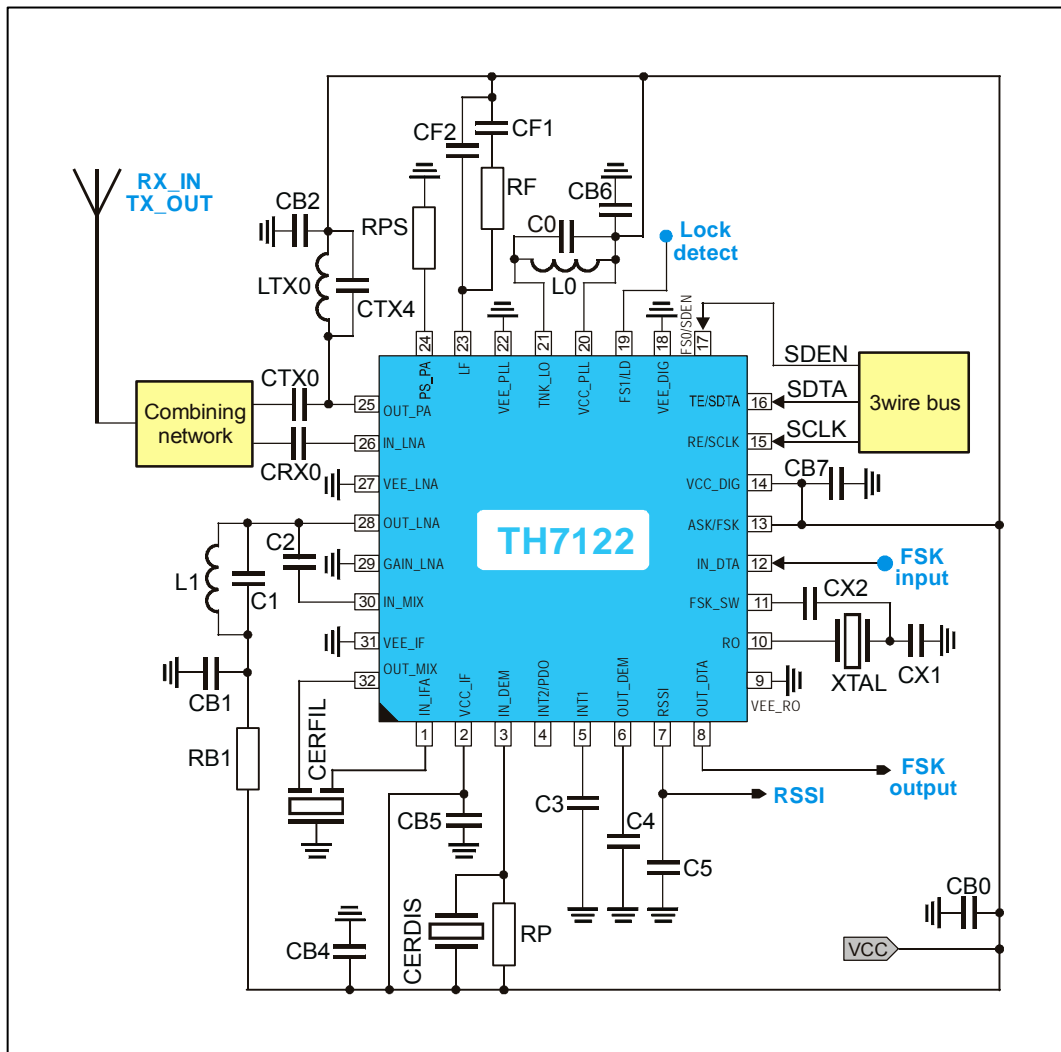
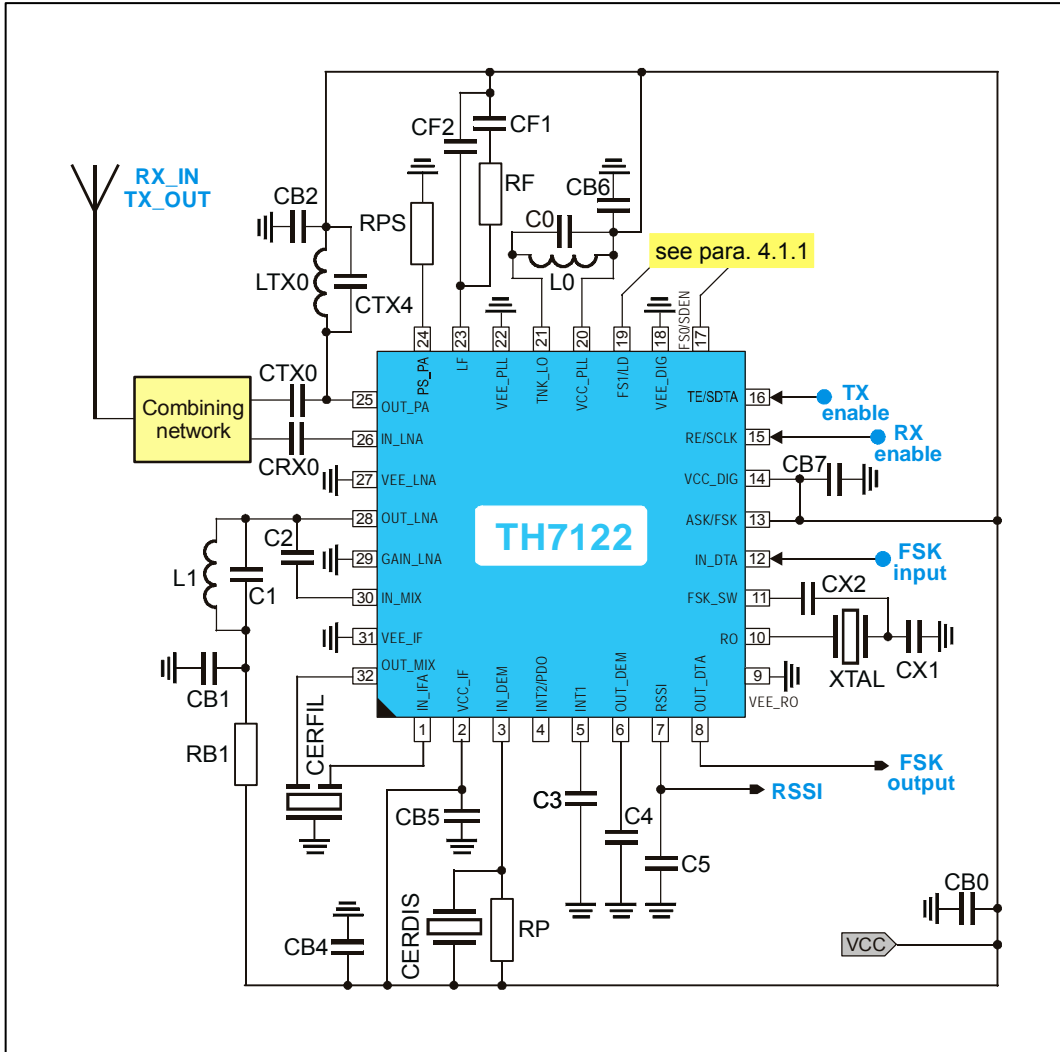

Fig. 14: Test circuit for FSK operation in Programmable User Mode (internal AFC option)
Fig. 15: Test circuit for FSK operation in Stand-alone User Mode
all parameters under normal operating conditions, unless otherwise stated; all parameters based on test circuits for FSK (Fig. 14 to 15) and ASK (Fig. 16 to 17), respectively;
all parameters based on test circuits for FSK (Fig. 14 to 15) and ASK (Fig. 16 to 17), respectively;
7.3 FSK Test Circuit Component List (Fig. 14 and Fig. 15)